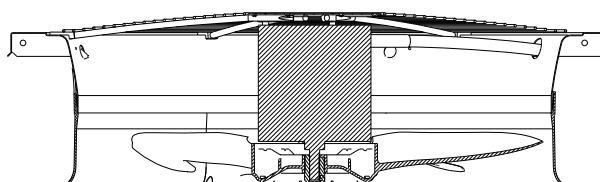

Fig. 31 — Condenser-Fan Adjustment
2. Remove condenser-fan assembly (grille, motor, and fan). See Fig. 31.